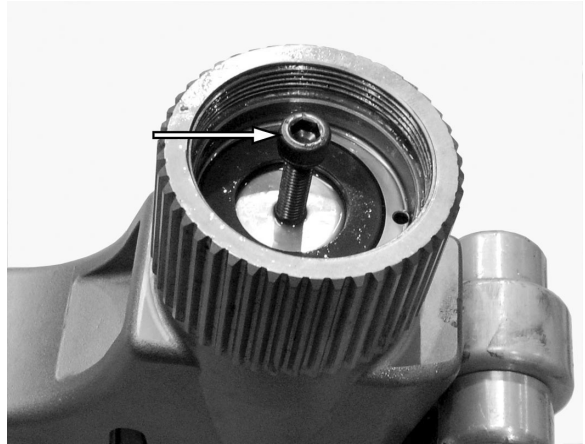

Figure 6. Piston Plug Removal
5. See Figure 6. Remove the piston plug from the end of the piston by screwing an M6 or M8 screw (depending on the wrench model) into the hole in the back of the piston plug, and pulling to remove.